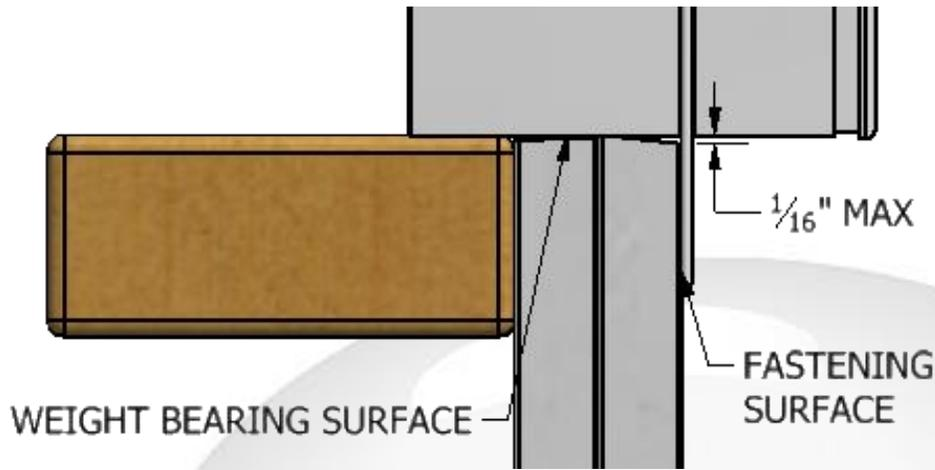

Figure 2 Acceptable Condition (flatness)
A) The weight bearing surface that the sill sits on must be flat and level to 1/16" to be considered fully supported. (See Figure 2)